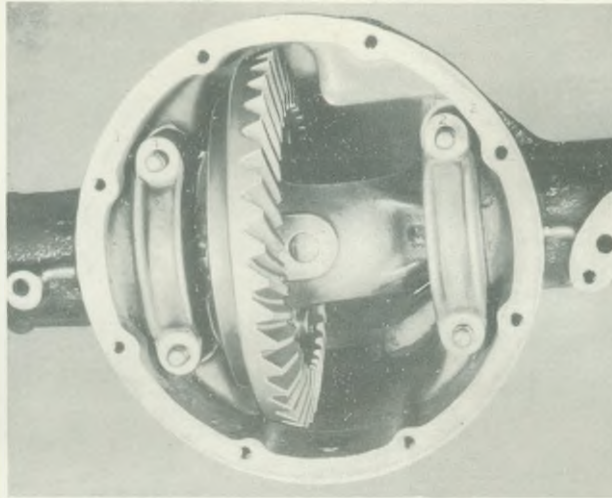

Fig. 14. Showing differential housing and bearing cap markings
7. Remove the two bearing caps, which clamp the differential bearings in position after the withdrawal of the two pairs of securing nuts ($\frac{11}{16}$ " A/F spanner required). Take note of the markings on the caps and their respective housings in the centre casing, which are illustrated in Fig. 14. The correct interrelation of the housings and bearing caps must be maintained.